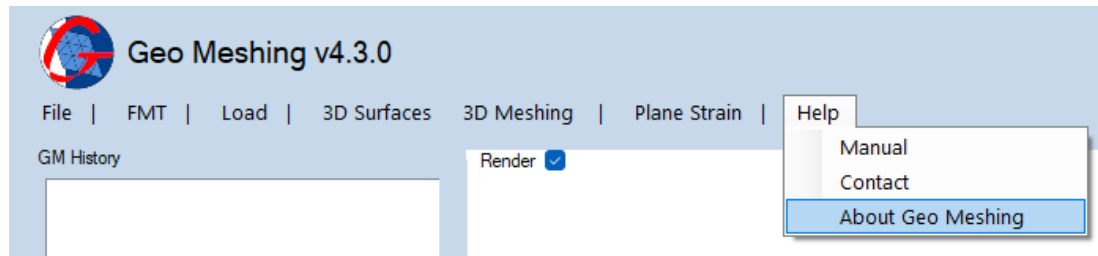

Figure 41: Help Strip Menu – About Geo Meshing.
- **Help Menu, About Geo Meshing:** This option (shown in Figure 41) displays *Geo Meshing v4.3* information along with the *Geo Meshing v4.3* code (See section 3.3 for more information).